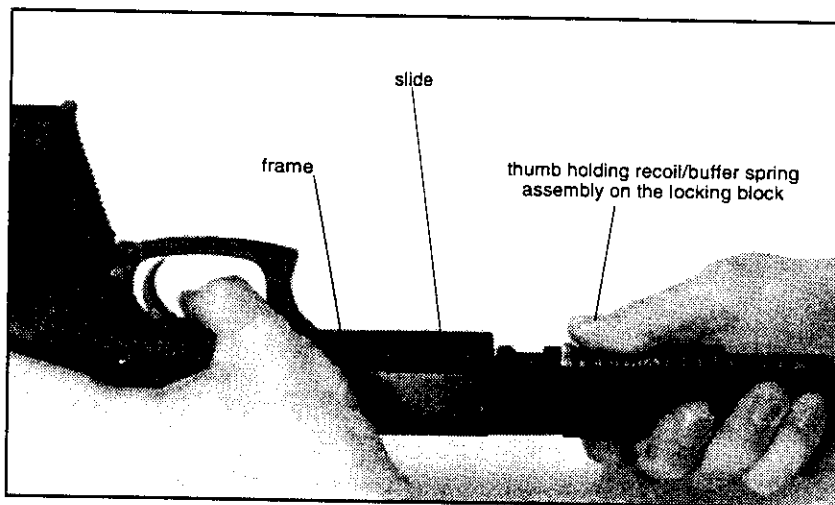

Figure 14
6. Hold the slide in the right hand with the thumb holding the rear end of the recoil/buffer spring assembly in place on the slide (See Figure 14).